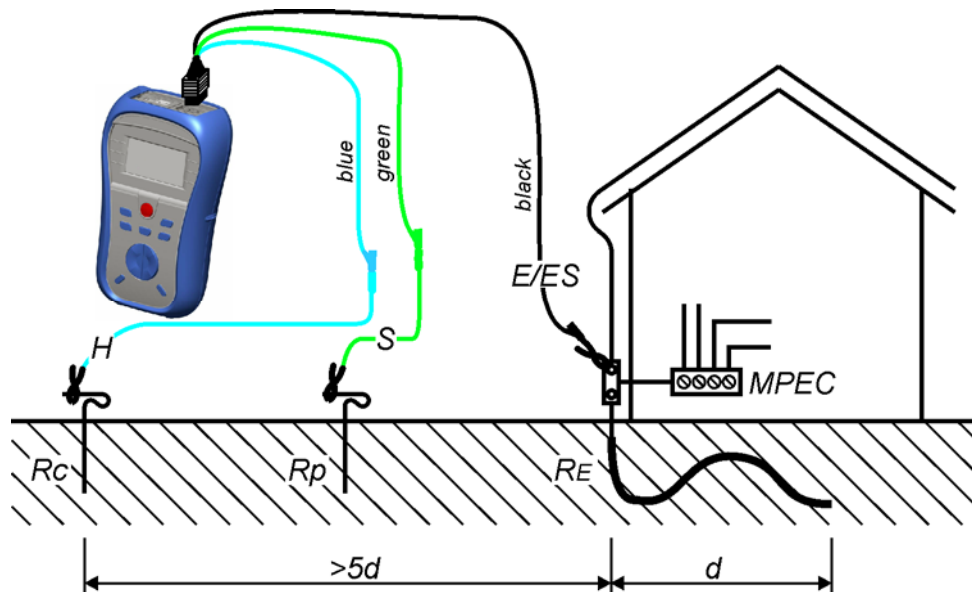

Figure 5.37: Resistance to earth, measurement of main installation earthing
- ❑ **Connect** the item to be tested (see figures 5.37, 5.38).